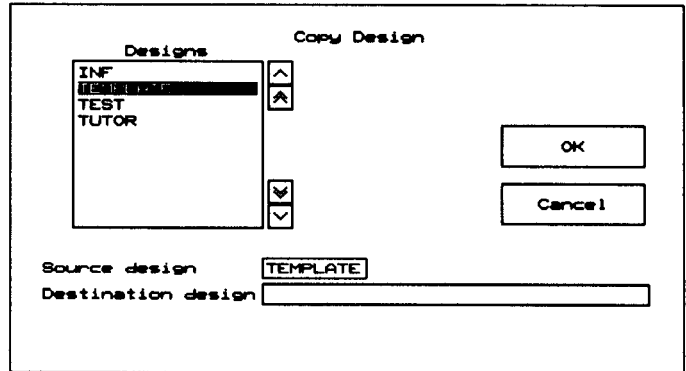

Figure 2-9. *Copy Design* window.
1. Select **Copy Design**. The window shown in figure 2-9 displays.